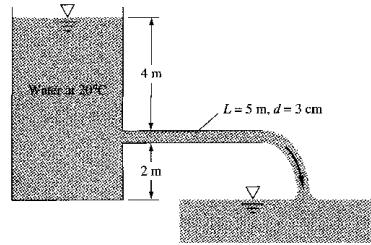

Fig. P6.49
**6.49** The tank-pipe system of Fig. P6.49 is to deliver at least  $11 \text{ m}^3/\text{h}$  of water at  $20^\circ\text{C}$  to the reservoir. What is the maximum roughness height  $\epsilon$  allowable for the pipe?